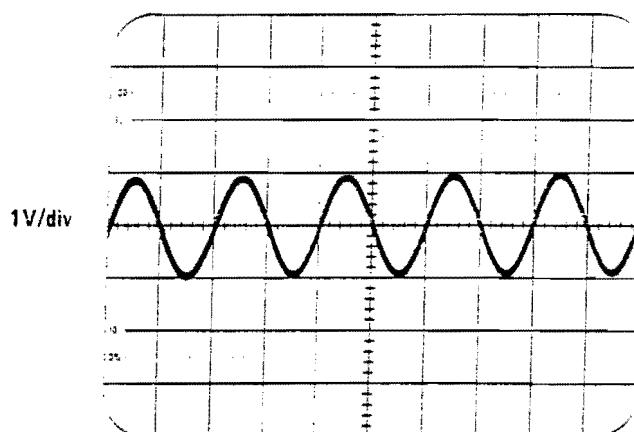

Fig. 2.3
16. Set the SECS/DIV switch to 0.5ms and compare the waveform shape with that of the previous setting in step 15. (See fig. 2.3).